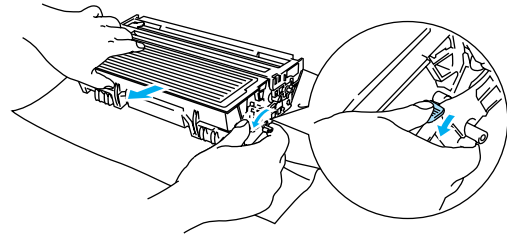

Fig. 5-4
- (3) While pressing the blue lock lever, take the toner cartridge out of the drum unit assembly. (Fig.5-4)